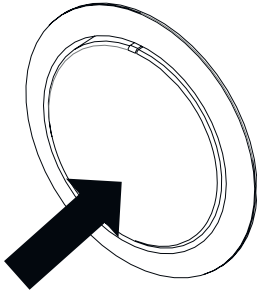

Fig. 13: Pop out off
- When cooking is finished, turn the switch to the off (top) position and press it inwards (Fig. 13).